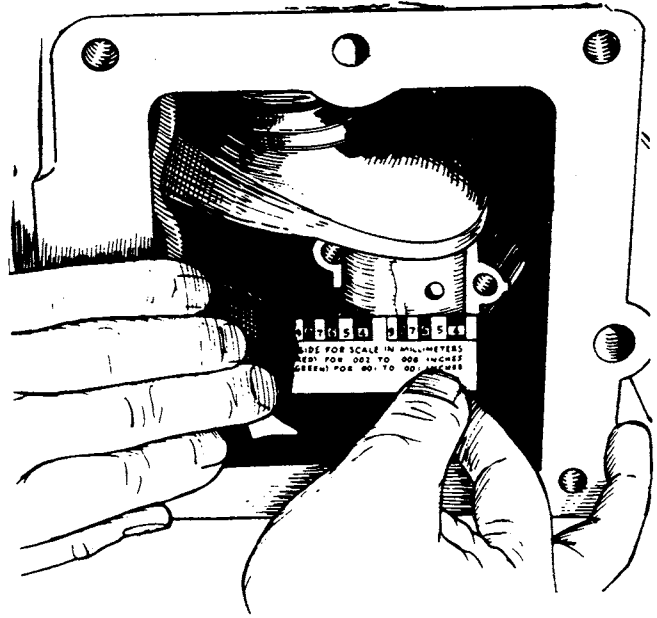

FIGURE 24. MEASURING BEARING CLEARANCE
2. Place a piece of correct size Plastigauge in the bearing cap the full width of the crankshaft rod surface and about 1/4 inch (6.35 mm) off center (Figure 24).